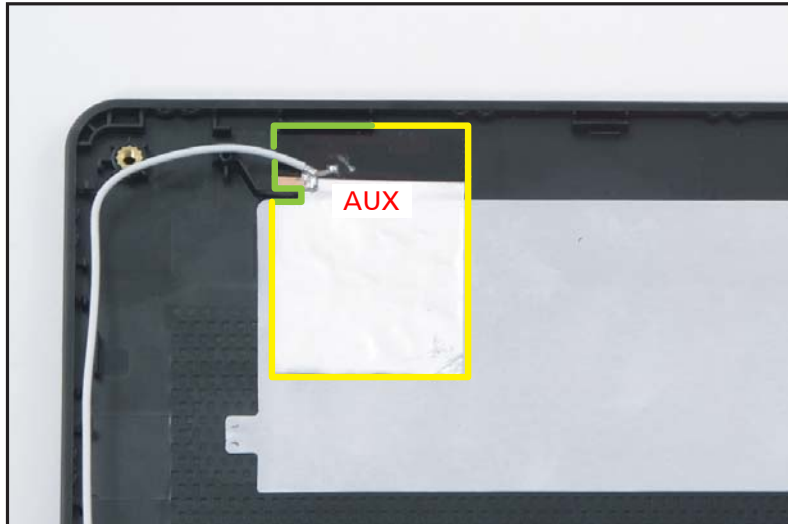

Figure 1-66. Replacing the WLAN Antenna
3. Place the AUX antenna (white-color) to the left side of the LCD cover. Make sure the antenna PCB circuit area is properly seated and placed onto its compartment highlighted by a green rectangle as shown in Figure 1-66.
4. Adhere the grounding foil of the AUX antenna as marked in yellow (Figure 1-66).